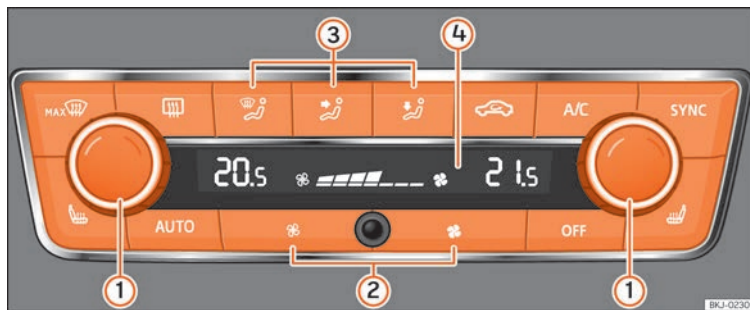

Fig. 172 Climatronic: controls.
- Adjust fan power to zero »» Fig. 172 ② or press the **OFF** button.
- Press the button **AUTO** »» Fig. 172.
- When you switch on the ignition, control ① >>> **Fig. 172** can be used to set the required interior temperature.
- Press the button  >>> **Fig. 172**.